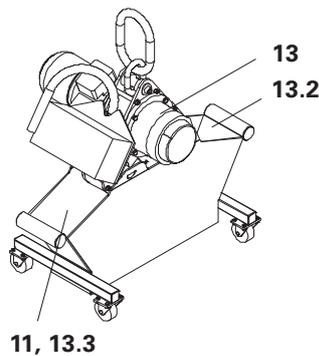

Fig. A1.04
Store Lifting Head (11), Chains (13.2, 13.3) and Lifting Mechanism (13) in the chain casing. (Fig. A1.04)